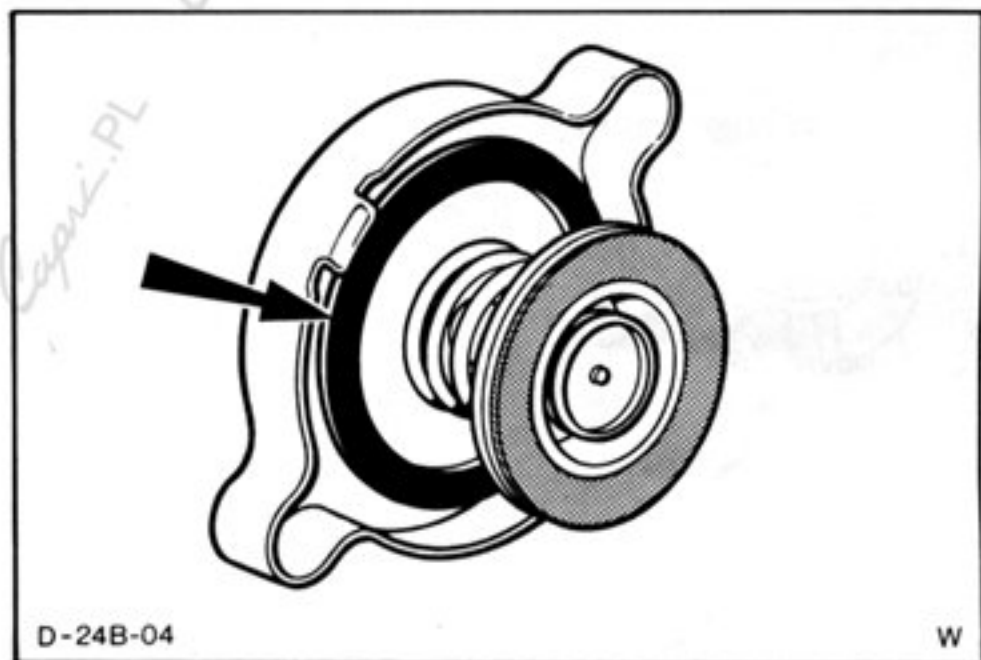

Fig.6. Degas tank cap secondary seal.
6. Check condition of secondary seal on filler cap, Fig.6. Refit cap.